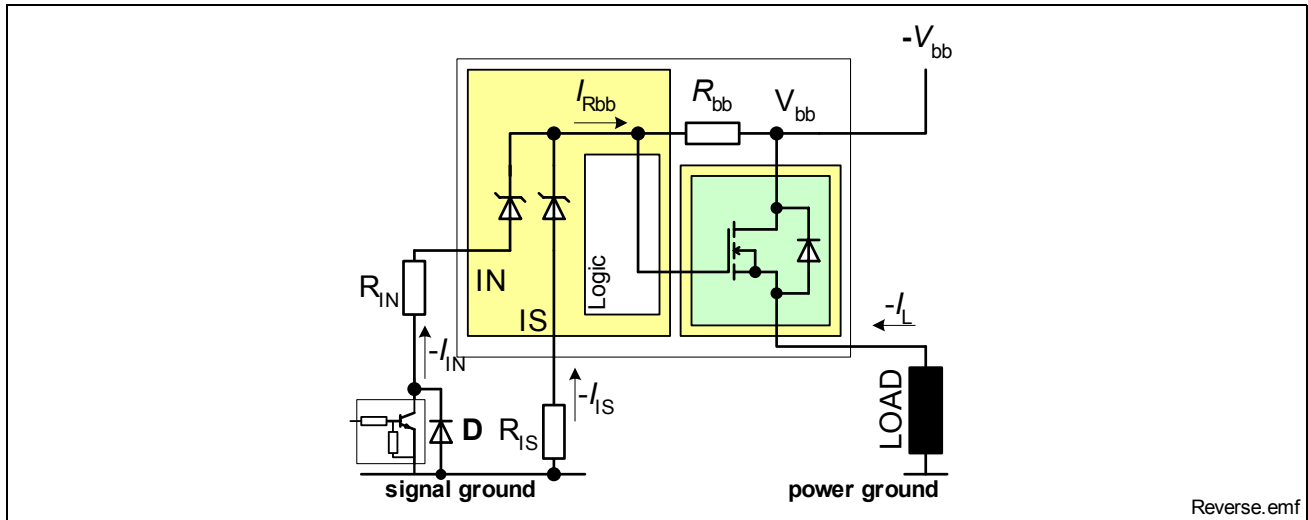

Figure 14 Reverse battery protection
- 3) Slew rate limitation can be achieved by means of using a series resistor for the small signal driver or in series in the input path. A series resistor R_{IN} in the input path is also required for reverse operation at $V_{\text{bb}} \leq -16\text{V}$. See also Figure 14.
The device can not block a current flow in reverse battery condition. In order to minimize power dissipation, the device offers Reversave™ functionality. In reverse polarity condition the channel will be switched on provided a sufficient gate to source voltage is generated $V_{GS} \approx V_{Rbb}$. Please refer to **Figure 14** for details.